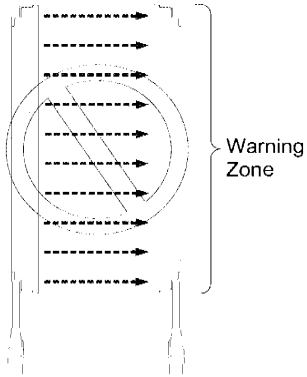

Figure 2
2. All zones of 1 set can be configured as an warning zone only for series connection. (See figures 2 and 3)